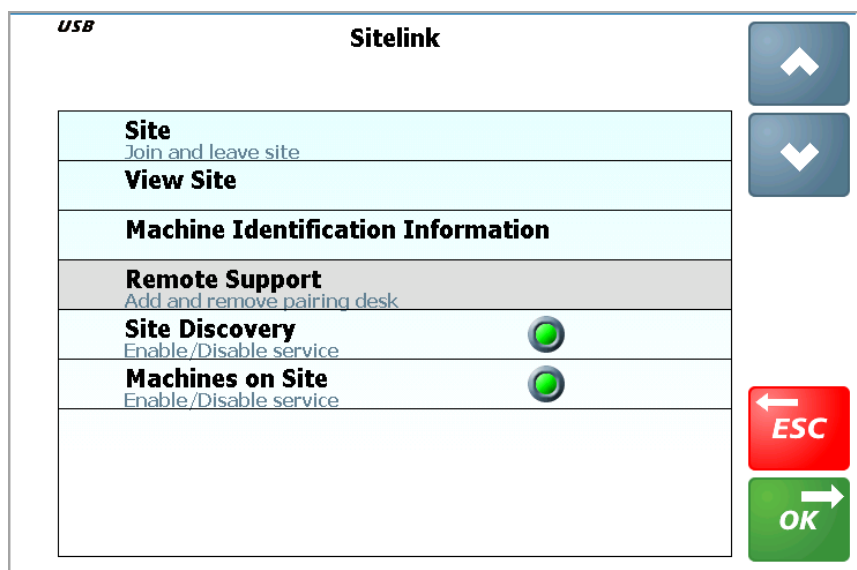

Figure 2-16: Load Weighing Display Sitelink
1. Make sure that **Site Discovery** is enabled (green) on the **Sitelink** menu (see Figure 2-16).
1. Make sure that **Site Discovery** is enabled (green) on the **Sitelink** menu (see Figure 2-16 on page 2-13).